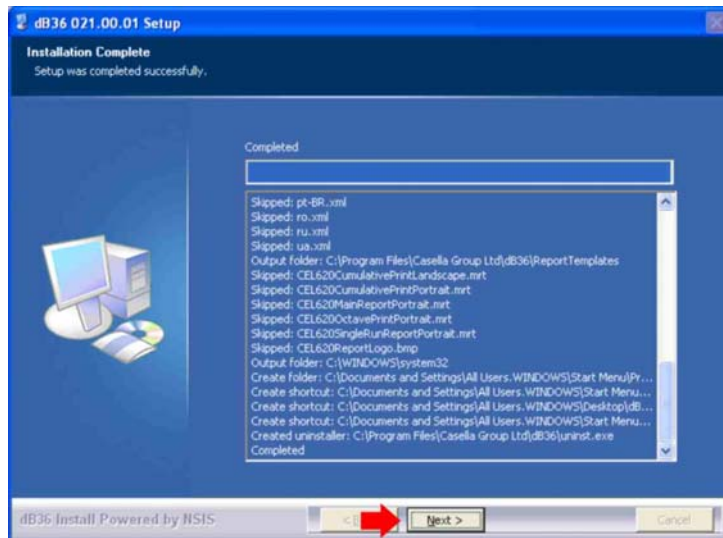

Figure 7 Installation Complete Screen
14. A screen is displayed indicating the Setup was completed successfully when the Installation is complete (Refer to Figure 7). Click **Next** to continue.